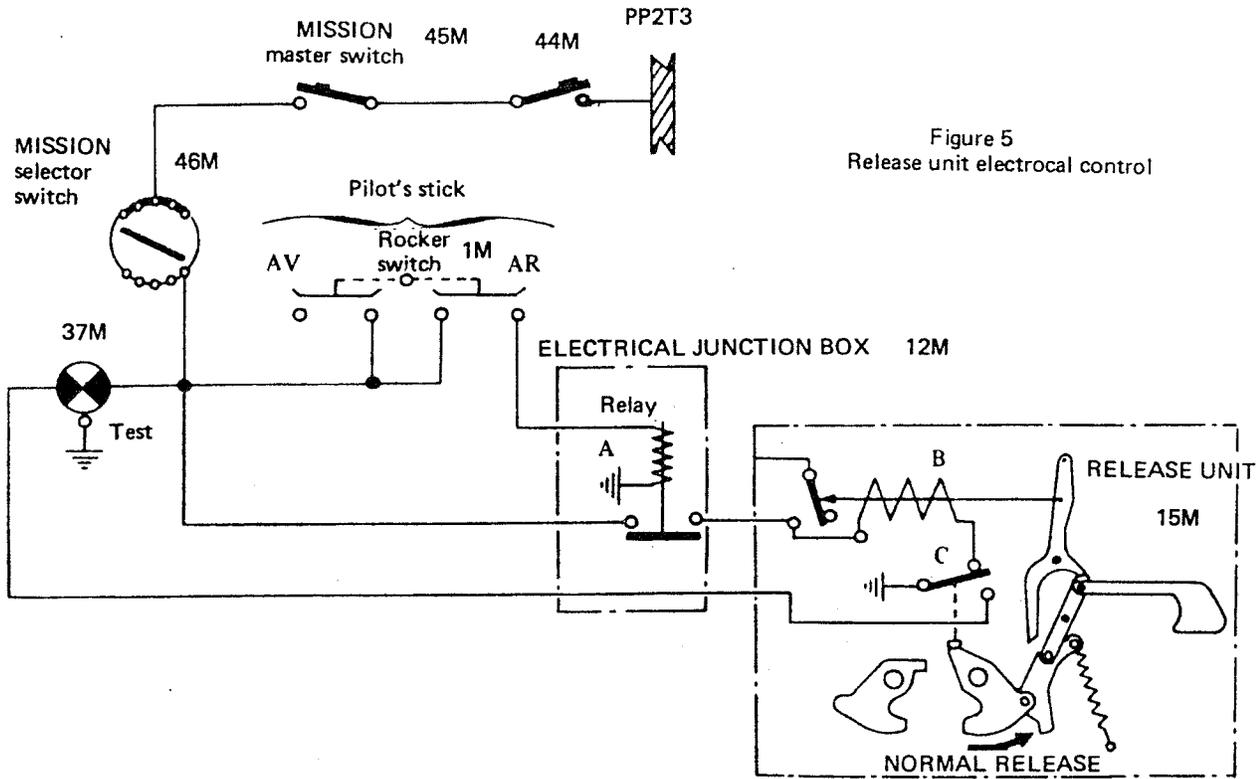

Figure 5
13.20.4. - ELECTRICAL CONTROL OF THE RELEASE UNIT (Figure 5)